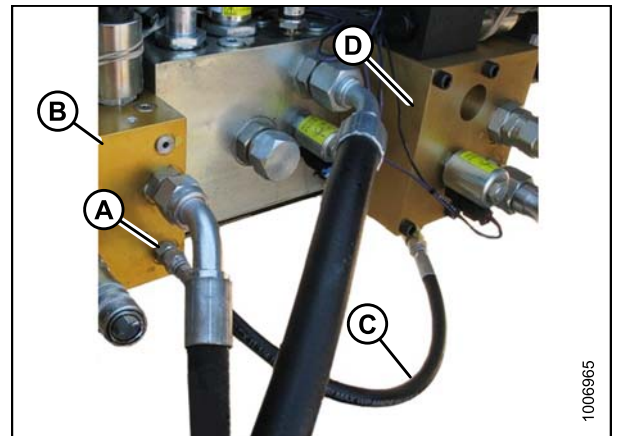

Figure 3.55: Connected Jumper Hose
2. Disconnect jumper hose (B) from 90 degree fitting (C) at port R4 on the reverser valve block (A).
3. Rotate 90 degree fitting (D) under reverser valve block so that hose can be routed to port C2 at (C) as shown in figure 3.55: *Connected Jumper Hose*, page 49 on the next page.
4. Remove cap from port C2 fitting (A) on header drive valve block (B).
5. Connect jumper hose (C) to port C2 fitting (A) on header drive valve block (B).
6. Install previously removed cap onto 90 degree fitting in port R4 on reverser valve block (D).